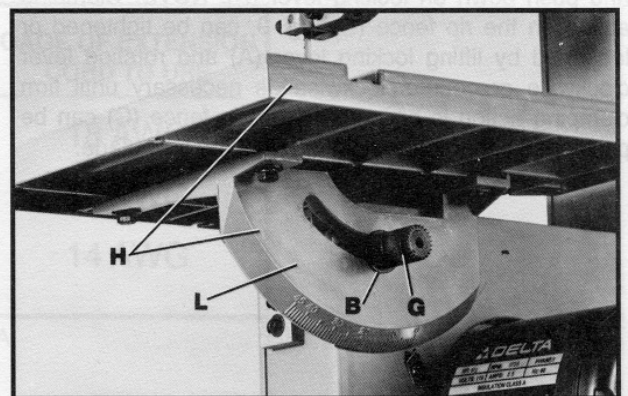

Fig. 5
4. Make sure the mounting rib on the band saw frame is engaged with the groove on the inside of the table trunnion (L) Fig. 5.
5. Place flat washer (B) Fig. 5, on the threaded end of stud (G) and fasten table assembly (H) to frame using stud (G) as shown.